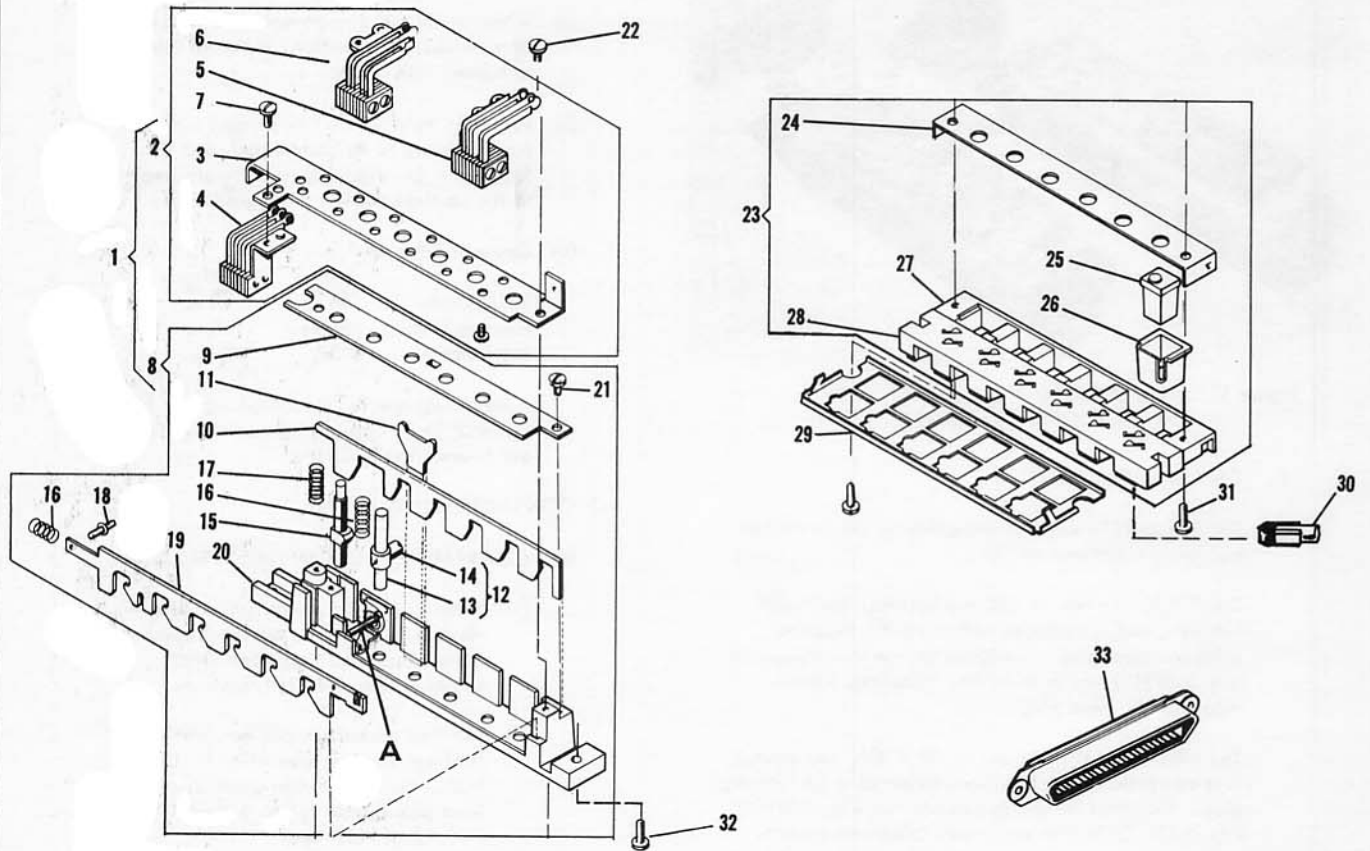

Figure 2. 598 and 599 Keys, Exploded View
These keys have been manufactured with a light shield (29, figure 2). Keys of current manufacture do not include light shield. If light shield is desired, it must be ordered separately.
Any depressed pick-up button will restore when any other pick-up button is depressed. When any two pick-up buttons are depressed simultaneously, neither will lock in nor operate the contacts of both keys at the same time. Any depressed pick-up button will remain depressed when the hold button is fully depressed and will restore when the hold button is released. When the 598 and 599 keys are installed together, connecting linkage must be provided so that both keys operate as a unit. In ITT "Corinthian" multi-key telephones, a pivot bar assembly (180565-1), return spring (190329-1) and shoulder screw (190354-1) are used to interlink the two assemblies. The coil spring (16, figure 2) and pin (18) are discarded from both keys in this type installation.
- (b) When the hold button (or plunger) is pushed slowly to its bottom position, its toggle pin (A, figure 2) must return freely to the vertical portion of its guide slot.
\* Force required to move the latch bar (19, figure 2) to its opposite stop when no buttons are in operated position.